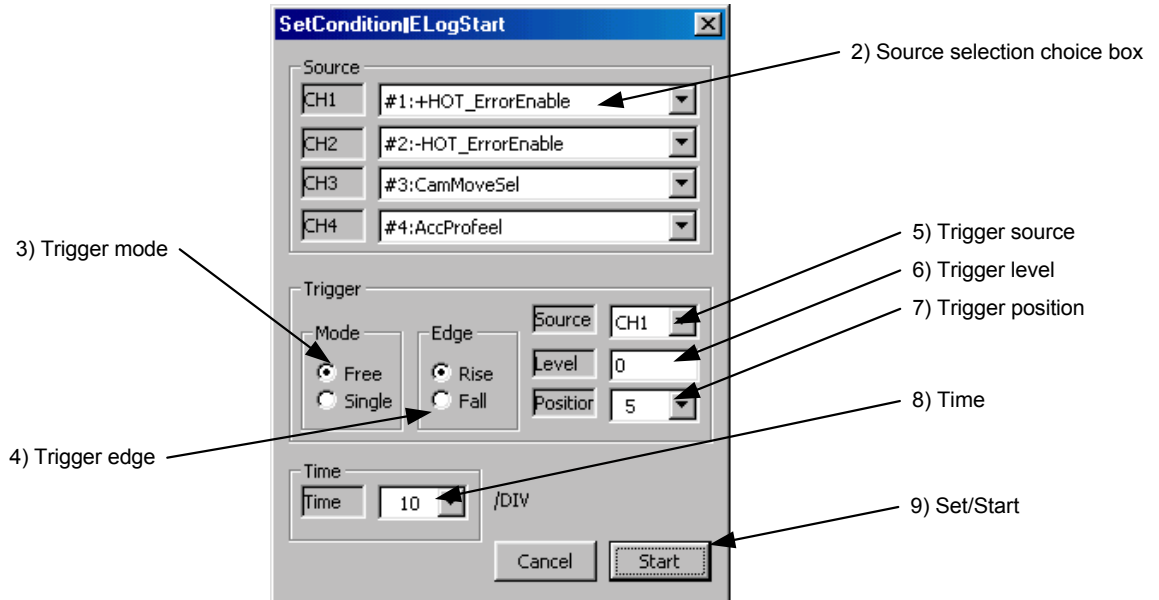

Figure 8.19 “SetCondition/ELogStart” dialog box
- (1) Click **“Log Start”** on the “Oscilloscope” dialog box to display the “SetCondition/ELogStart” dialog box (see Figure 8.19).